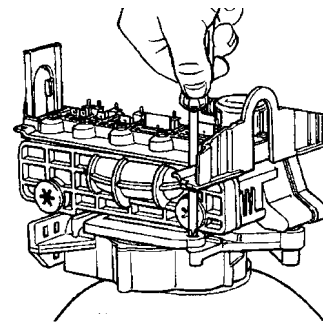

Figure 19
- To remove the valve, remove the locking bar screw, Figure 19.